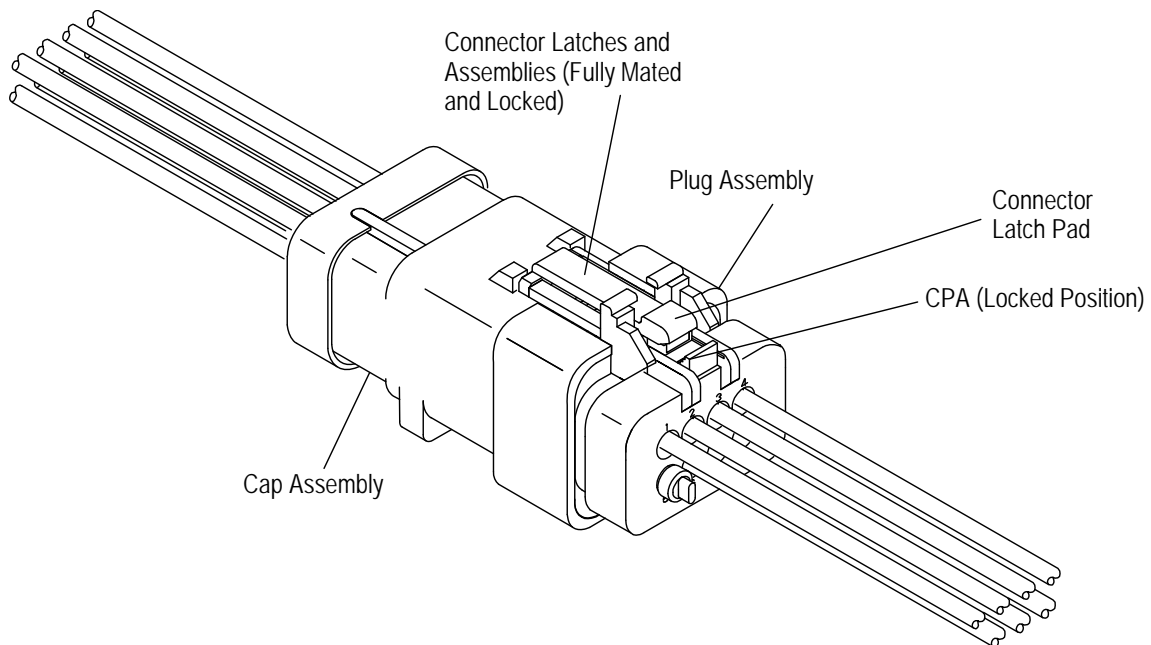

Figure 7
7. By pushing the CPA toward the plug housing, it can be slid into the locked position in which it slides under the connector latch pad. See Figure 7.